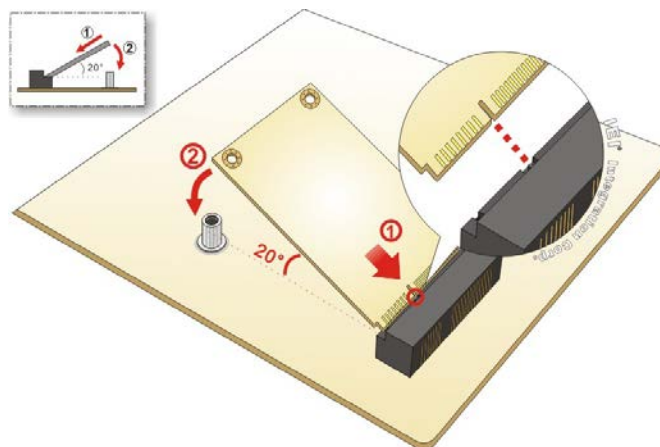

Figure 4-5: Inserting the Full-size PCIe Mini Card into the Slot at an Angle
Step 3: Line up the notch on the module with the notch on the slot. Slide the M.2 module into the socket at an angle of about 20° (**Figure 4-5**).
Step 3: Line up the notch on the card with the notch on the slot. Slide the PCIe Mini card into the socket at an angle of about 20° (**Figure 4-5**).